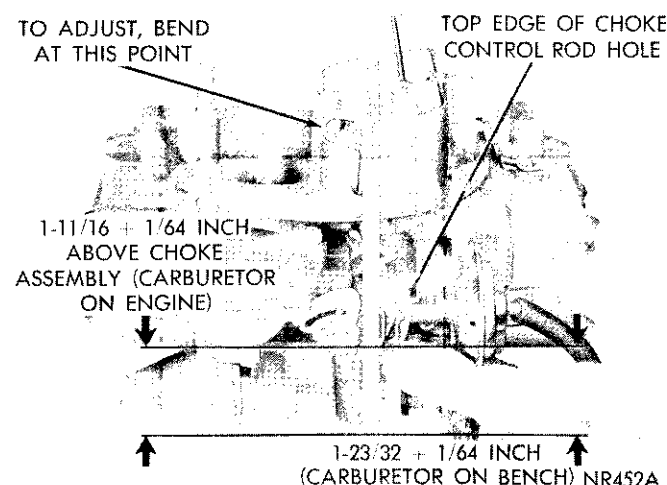

Fig. 18—Qualifying Choke Control Lever
(1) Open the throttle to mid-position.
(2) Close the choke valve by slight pressure on choke control lever.
(3) The top of choke rod hole in control lever should be $1-11/16 \pm 1/64$ inch above choke assembly (carburetor on engine) or $1-23/32 \pm 1/64$ inch above carburetor base (Carburetor on bench) (Fig. 18).
(4) Adjust if necessary by bending choke shaft rod at point indicated.